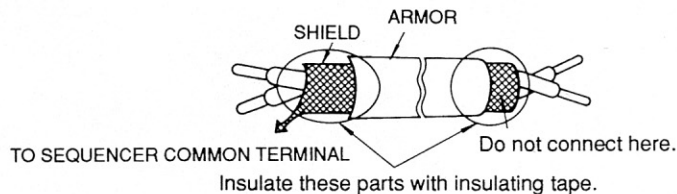

Fig. 3 Shielded Lead Termination
- (1) Digital output card DO-08 control signal leads (terminals TD1 to TD11) must be separated from the main circuit leads and other power cables.
- (2) Use shielded lead for connection with sequencer, etc., and the ends of the lead must be prepared as shown in Fig. 3 in order to prevent erroneous operation caused by noise interference. Wiring distance must be 50 m or less.
- (3) Be sure to insert a surge absorbing circuit into the coil such as a relay, contactor or solenoid.